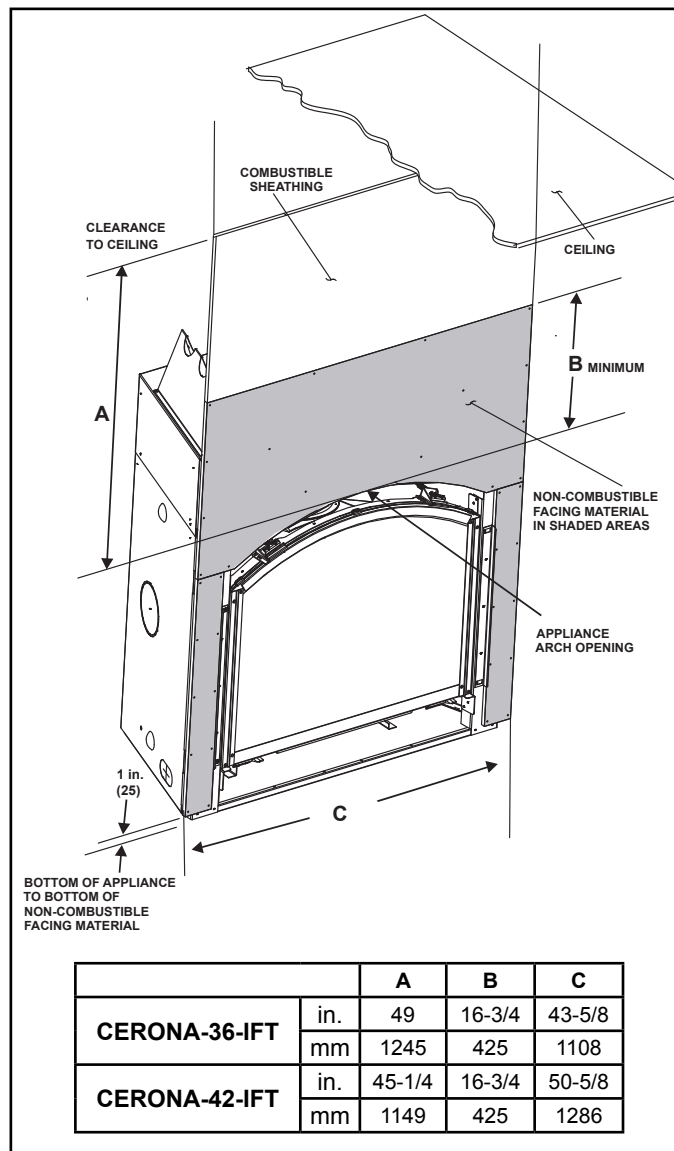

Figure 10.1
- Seal gaps between the finished wall and appliance top and sides using a 300 °F minimum sealant. Refer to Figure 10.1.